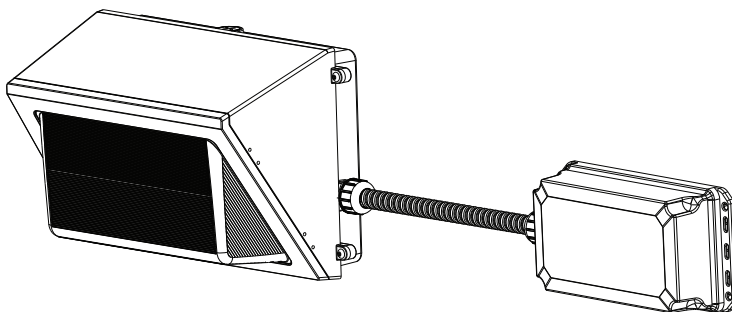

Fig. 27
3. Make wiring connections (refer to wiring diagram). Ensure the watertight connector is secured to the fixture. Secure the fixture and EM to the mounting surface with the appropriate hardware (not included). (See Fig. 27)